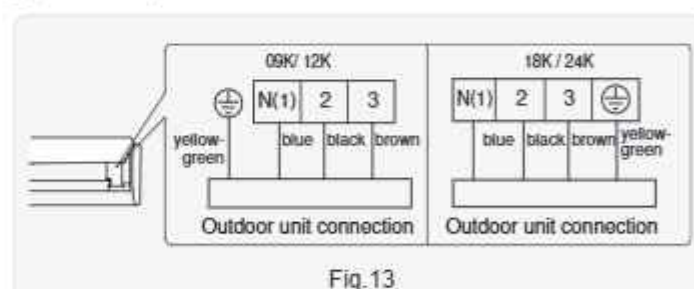

Fig. 13
- (3) Remove the wire clip; connect the power connection wiresignal control wire (only for cooling and heating unit) to the wiring terminal according to the color; tighten the screw and then fix the power connection wire with wire clip. (As show in Fig.13)
- (4) Put wiring cover back and then tighten the screw.
- (5) Close the panel.